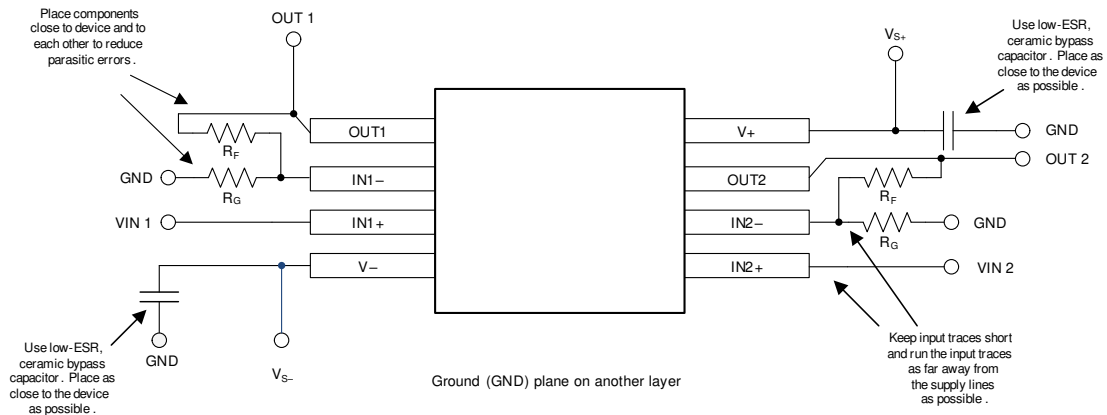

Figure 8-4. Layout Example
- Place the external components as close to the device as possible, as shown in Figure 8-4. Keeping R_F and R_G close to the inverting input minimizes parasitic capacitance.